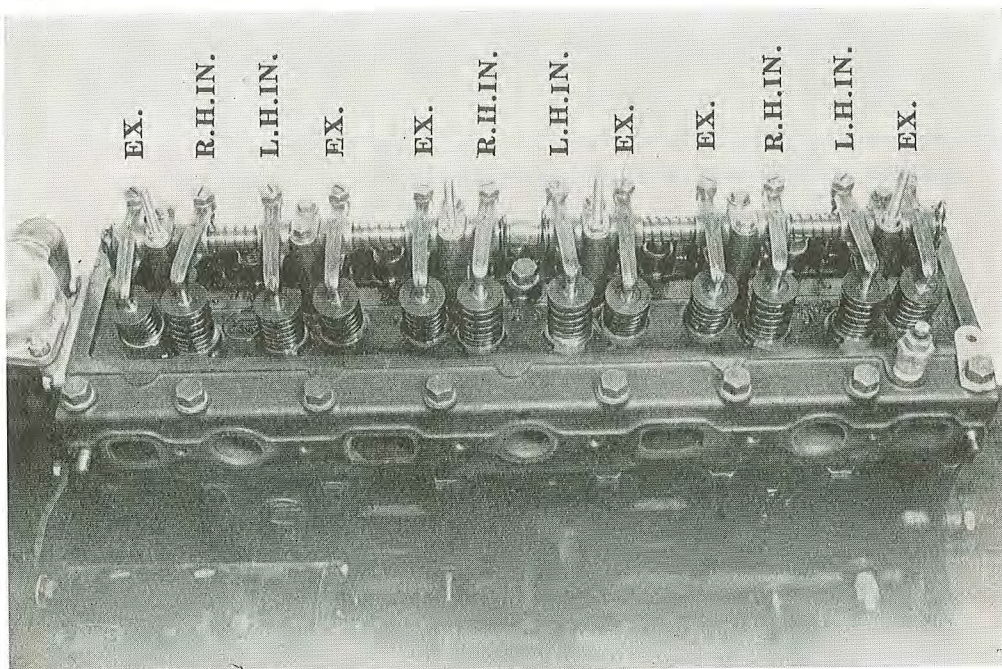

Figure 28 - Valve Rocker Arms Correctly Assembled
(5) Install twelve valve lifters in right side of block and drop the twelve push rods down through the openings in the cylinder head and seat them in the lifters.
(6) Drop oil delivery pipe down through the openings in the cylinder head and tighten it to oil delivery union of block.
(7) Place two rocker shaft assemblies on the cylinder head so that the studs on the cylinder head will the respective supports on each shaft.
(8) Install four bolts and two stud nuts which retain each rocker shaft assembly to cylinder head and tighten evenly to 30~45 foot-pounds torque. Place the oil connect sleeve, spring, union over open ends of the two rocker shaft assemblies.
(9) Connect oil delivery pipe to rocker shaft oil delivery union and tighten securely. Figure 28 shows rocker arm and shaft assemblies correctly installed on head.